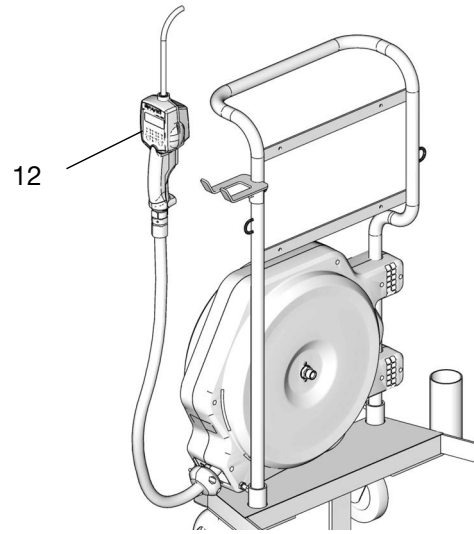

FIG. 33
- Install the dispense device (12) to the end of the hose and tighten fitting securely (FIG. 33).